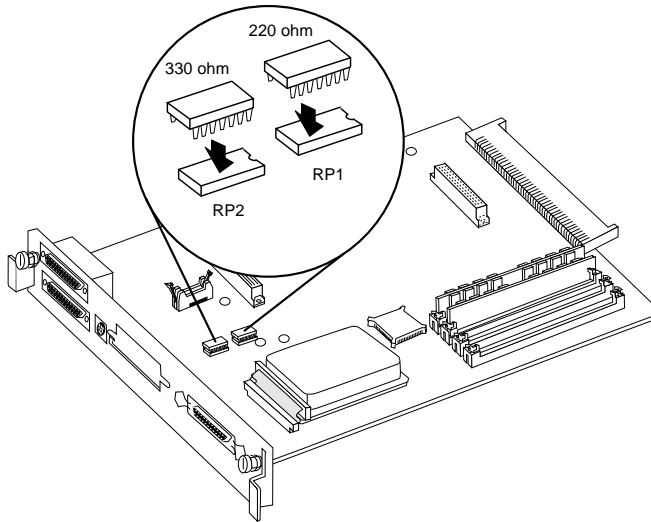

Fig. 8.24 *Insert the New DIP Resistors*
6. Line up the notch on the 220-ohm DIP resistor with the notch on the RP1 socket. Carefully insert the resistor's pins in the socket. Then align and install the 330-ohm DIP resistor in the RP2 socket the same way (fig. 8.24).